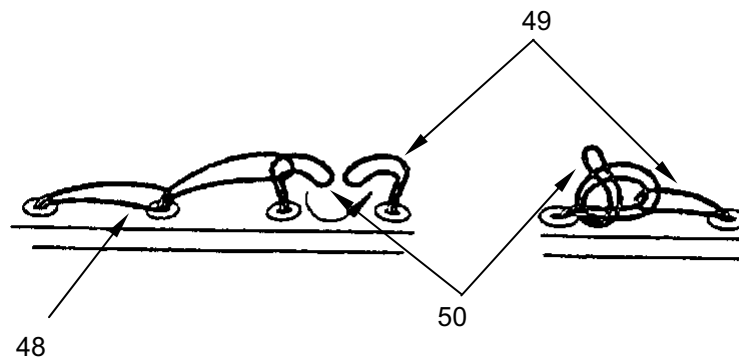

Figure 24. Complete Becket Lacing.
- Continue lacing and close hook and pile weather flap (**Figure 24, Item 48**) until reaching the last becket lace (**Figure 24, Item 49**).
- Upon reaching last becket lace (**Figure 24, Item 49**) at eave, insert next-to-last becket face (**Figure 24, Item 50**) through loop of last becket lace.
- Pull the next-to-last becket lace (**Figure 24, Item 50**) back towards the ridge and tie off with half-hitch knot.